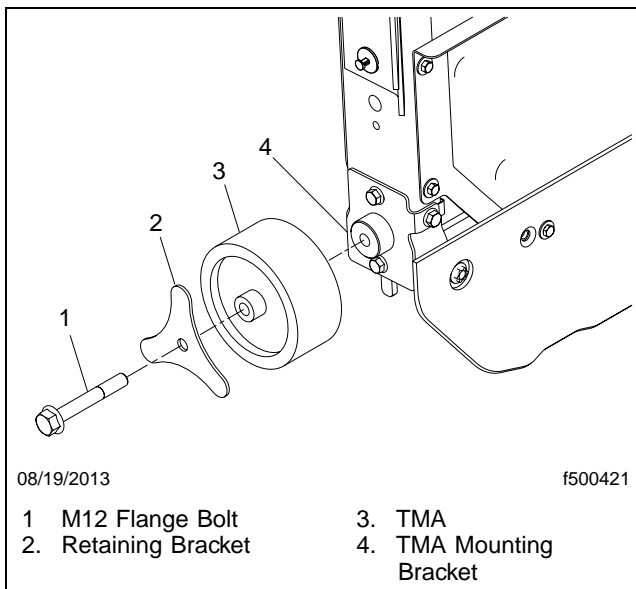
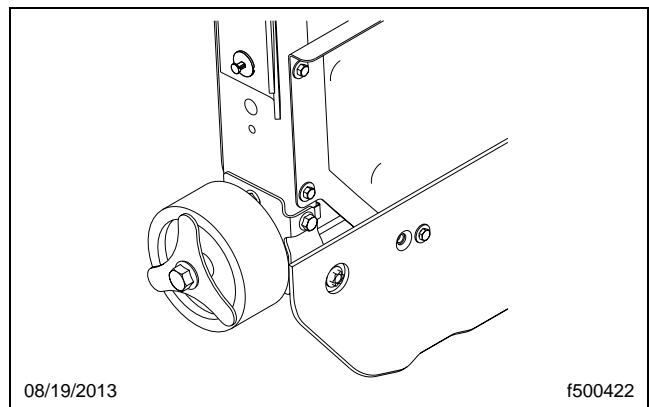

Fig. 9, TMA Installation (exploded)
Fig. 10, Finished TMA Installation
If a TMA is already installed (see **Fig. 10**), **or** if the vehicle has been retrofitted with a 1400 sq in radiator with lower isolators, no further work is needed. Clean a spot on the base label (Form WAR259). Write the campaign number, SF503A, on a blank gray completion sticker (Form WAR261), to indicate the work has been completed, and attach it to the base label.
- Install the TMA, retaining bracket, spacer, and M12 flange bolt. Tighten 60 lbf-ft (81 N·m). See **Fig. 9** and **Fig. 10**